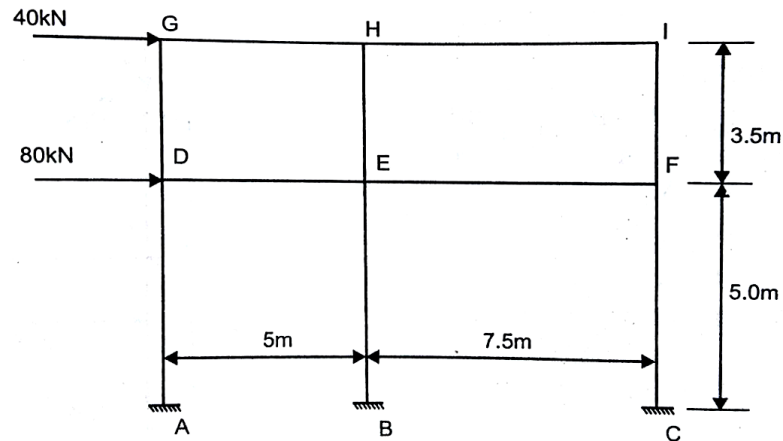

Figure 2.3
4. Using the portal method, analyses the building frame subjected to horizontal force (due to wind) as shown in Figure 2.3. Sketch the bending moment diagram.